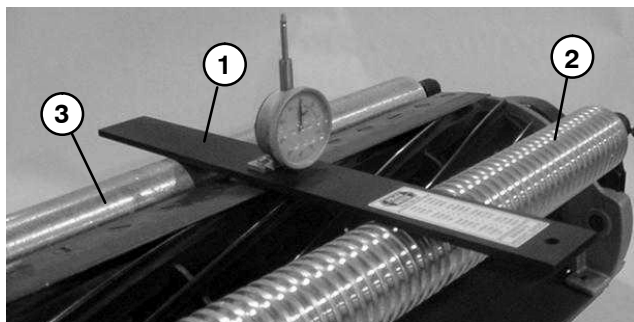

Figure 19
6. Hook adjusting screw head on the cutting edge of the bedknife. Rest the rear end of the bar on the rear roller (Fig. 19).